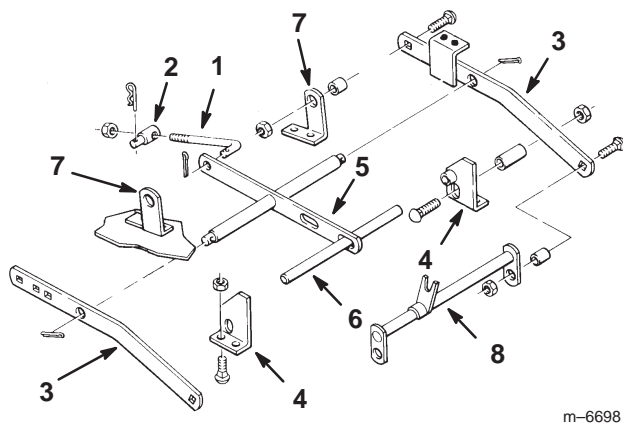

Figure 1
1. Remove the cotter pin securing the adjusting rod trunnion to the mower bracket (Fig. 1).
2. Remove the carriage bolts, spacers and nuts securing the draft bars to the rear mower brackets (Fig. 1).
3. Remove the cotter pins securing the draft bars to the leveler bar (Fig. 1).
4. Remove the carriage bolts and nuts securing the front mower brackets to the mower (Fig. 1).
5. Remove and retain the leveler shaft and the leveler bar. Discard all other components (Fig. 1). Do not remove the rear mower brackets from the mower.